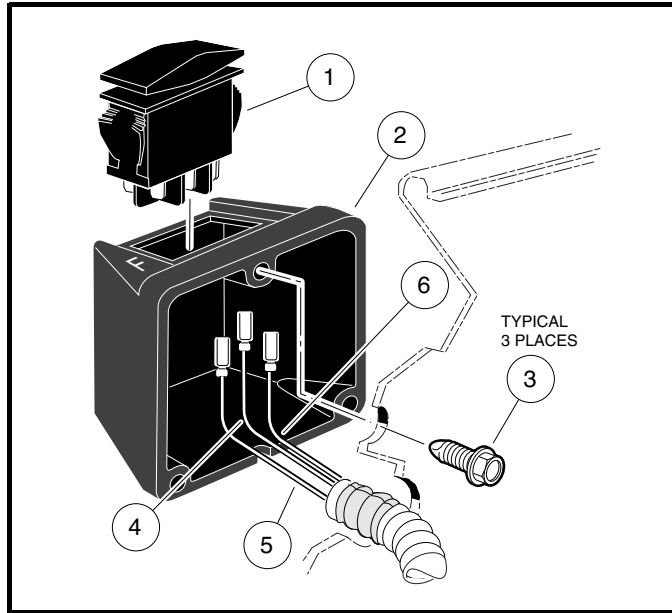

Figure 12-3 Forward/Reverse Rocker Switch
1. Remove three self tapping screws (3) that hold F&R rocker switch case (2) to body (**Figure 12-3, Page 12-4**).
2. Remove red/white (4), blue (5), and white (6) 18 gauge wires from rocker switch (**Figure 12-3, Page 12-4**).
3. Depress locking tabs (1) on each end of switch and push switch out of case (**Figure 12-3, Page 12-4**).
1. Depress locking tabs (1) on each end of switch and push switch into case (**Figure 12-3, Page 12-4**).
2. Connect red/white (4), blue (5), and white (6) 18 gauge wires to rocker switch (**Figure 12-3, Page 12-4**).
3. Install the three self tapping screws (3) that hold the F&R rocker switch case (2) to the body (**Figure 12-3, Page 12-4**). Tighten to 20 in.lb (2.2 N-m).